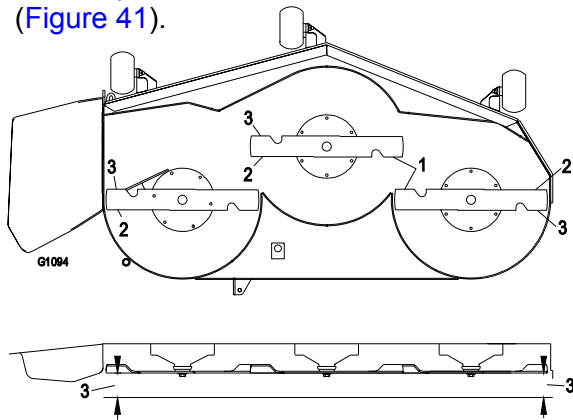

Figure 41
4. Carefully rotate the blades side to side (Figure 41).
5. Measure between the outside cutting edges and the flat surface (Figure 41). If both measurements are not within 3/16 inch (5mm), an adjustment is required; continue with this procedure.
9. Carefully rotate the blades side to side (Figure 41).